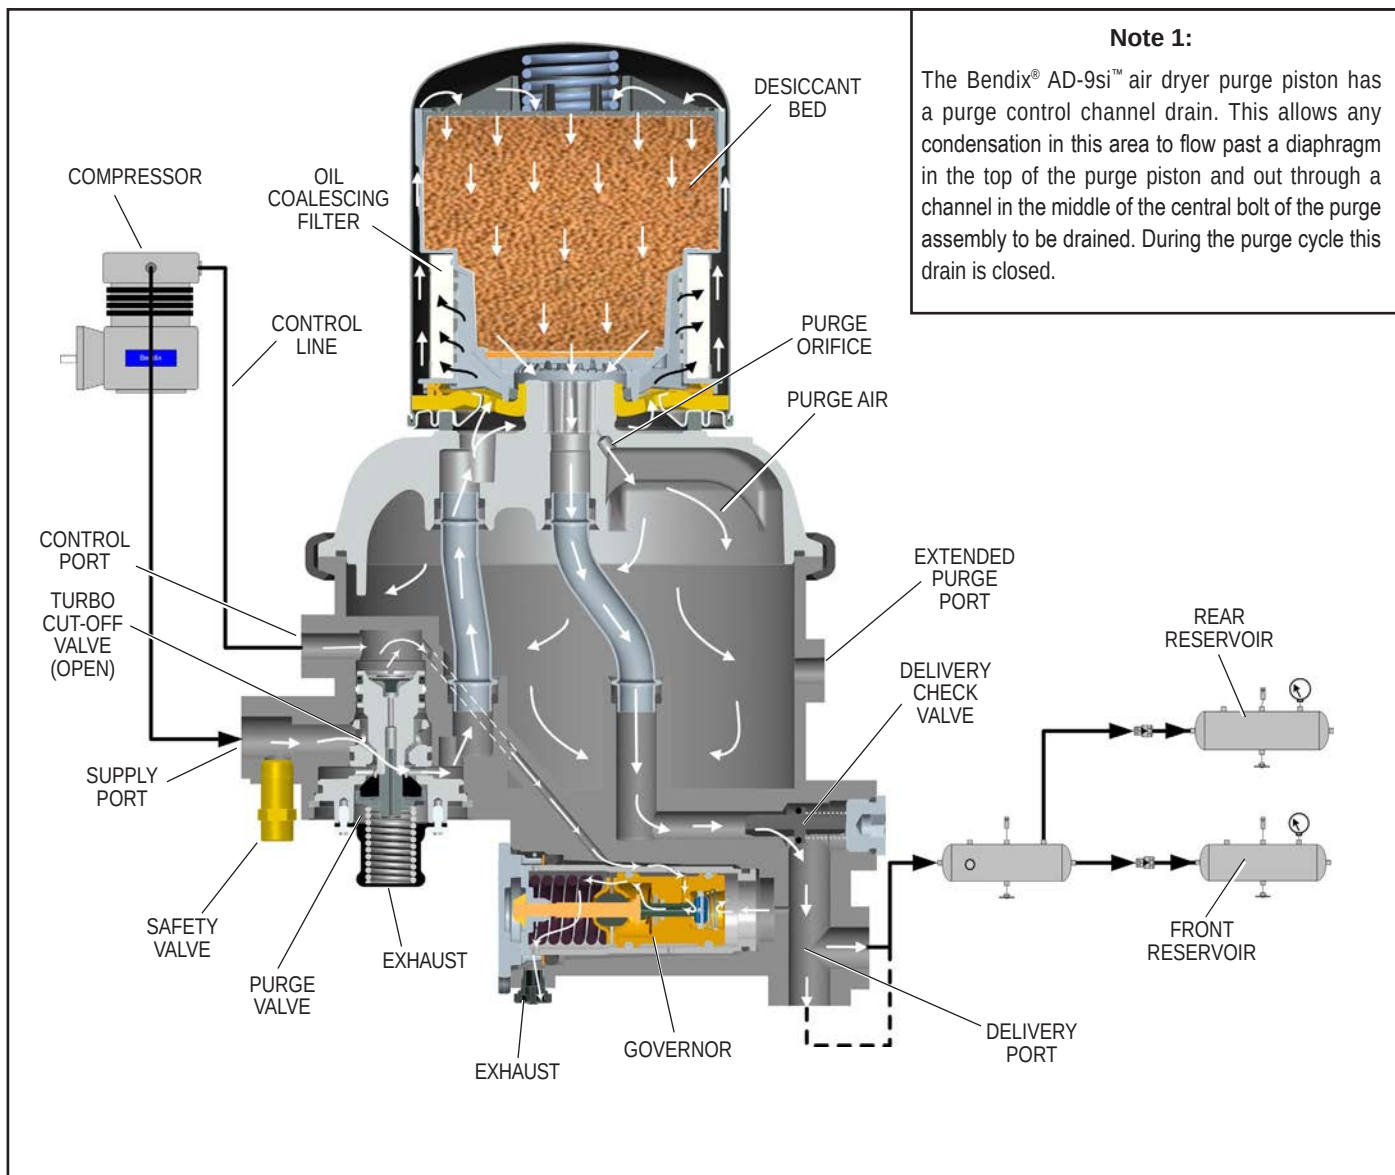
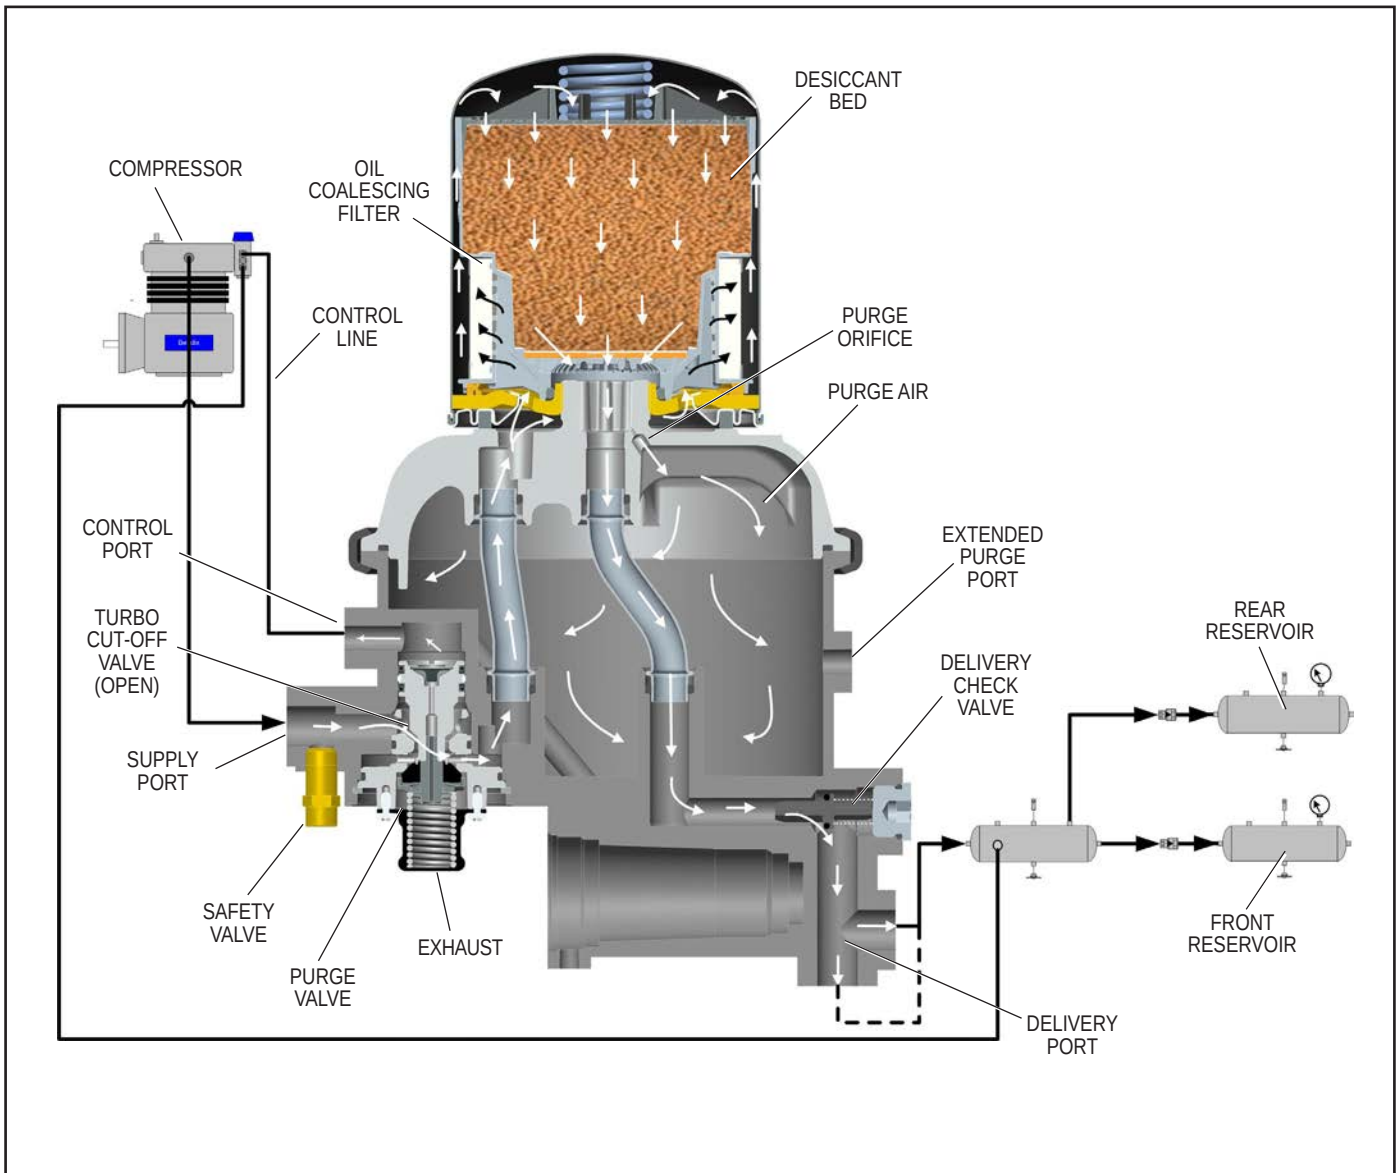

FIGURE 2 - BENDIX® AD-9si™ AIR DRYER WITH GOVERNOR—CHARGE CYCLE
FIGURE 4 - BENDIX® AD-9si™ AIR DRYER WITHOUT GOVERNOR—CHARGE CYCLE
GENERAL (Refer to Figures 2 through 5.)
The Bendix AD-9si air dryer is designed to receive compressed air from the vehicle air compressor, clean and dry the air, deliver air to the vehicle's air reservoirs and control the compressor/dryer charge cycle. The AD-9si air dryer is available with an internal governor (Figures 2 and 3) or without an internal governor (Figures 4 and 5).
CHARGE CYCLE (Refer to Figures 2 and 4.)
A. Electric Power to the Dryer (Refer to Figure 4.)